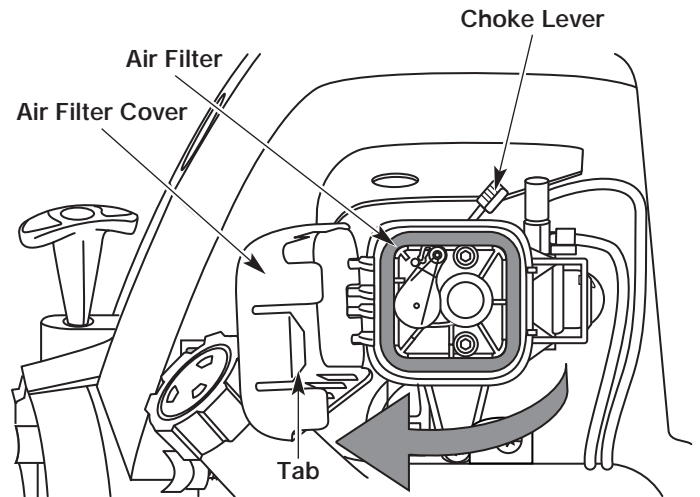

Fig. 32
1. Open the air filter cover. Push the tab on the right side of the cover in, pull the air filter cover out and to the left (Fig. 32).
2. Remove the air filter (Fig. 32).